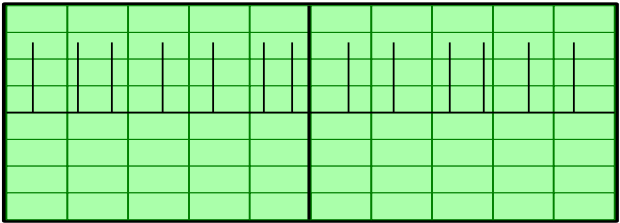

Figure 1
6.2.7 Turn output on the firing box to max and verify loaded output signal is above 10Vpp and remains steady throughout adjustment range of SCR firing box. See Figure 1 next page. Removing 100-ohm load on scope leads should allow output to increase to above 15Vpp. See chart on next page.
7.1 See Figure 1